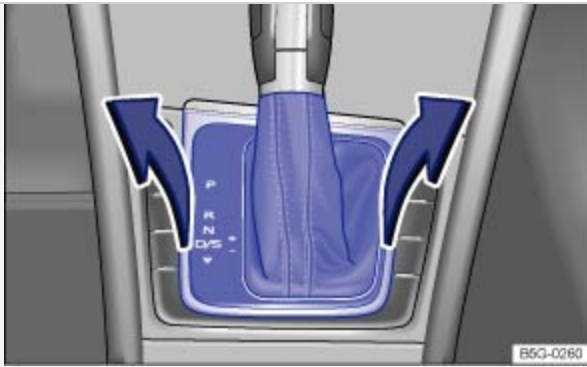

Fig. 214 Removing the selector gate cover.
- Using your hands, pull upward on the front of the selector lever cover to release it, then pull the selector lever sleeve upward ⇒ *Fig. 214*.